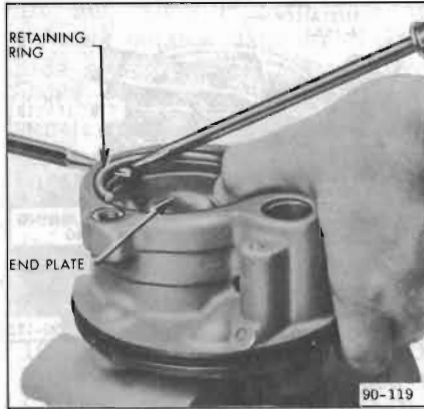

Figure 90-65—Removing End Plate Retaining Ring
8. Rotate end plate retaining ring until one end of ring is over hole in housing. Spring inward on one end of ring with 1/8" punch to allow screwdriver to be inserted and lift ring out. See Figure 90-65.